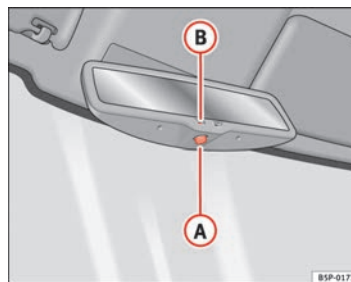

Fig. 66 Automatic anti-dazzle interior rear vision mirror.
- Press button **A** ⇒ Fig. 66. Control lamp **B** goes off.
- Press button **(A)** ⇒ Fig. 66. Control lamp is lit.